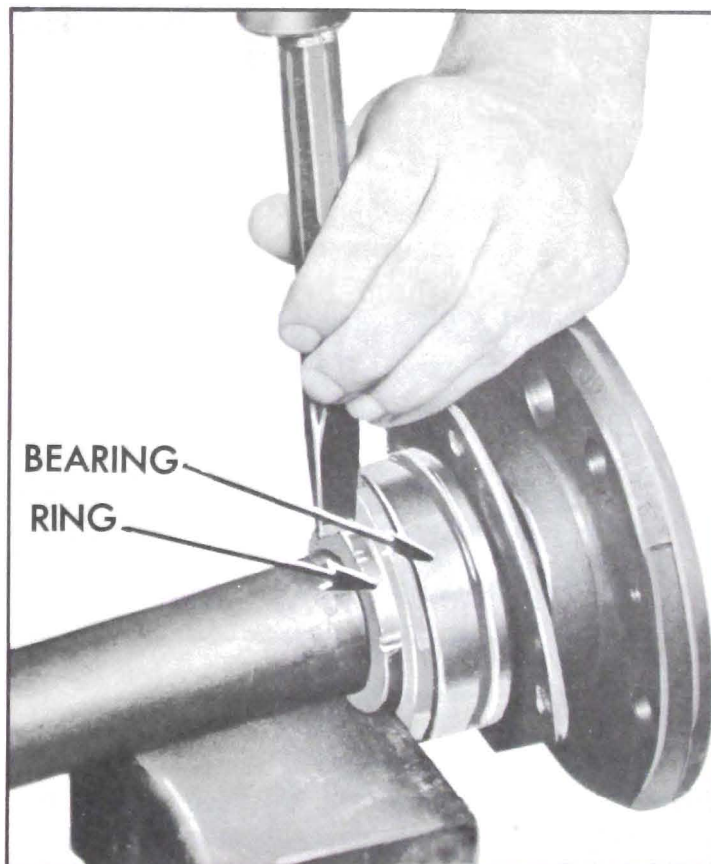

Figure 6-5—Removing Rear Wheel Bearing Retainer Ring
**NOTE:** *The ring need not be completely split, but nicked deep enough in 3 or 4 places to spread it.* Retaining ring will then slip off with light pressure. See Figure 6-5.